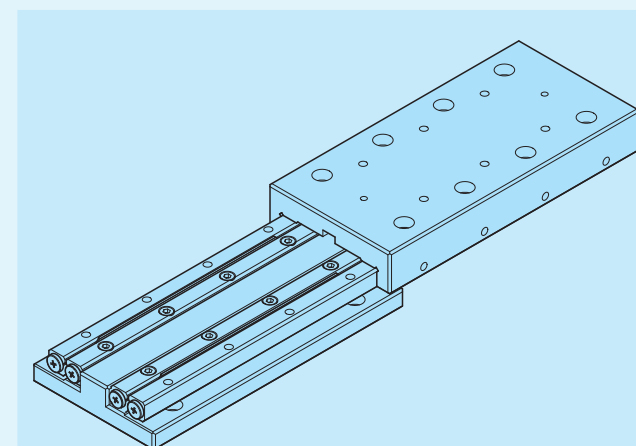

Fig. 21
- Position the table while holding the way to prevent it from moving. (Refer to Fig. 21)